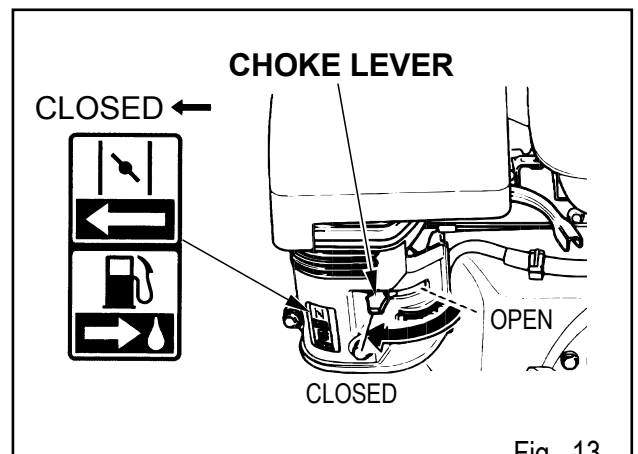

Fig. 13
2. To start a cold engine, move the choke lever to the CLOSED position. (Fig.13)